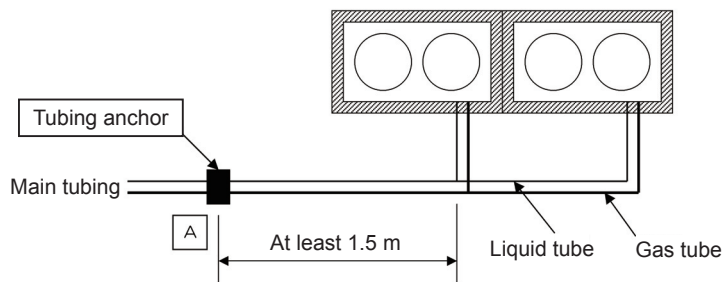

Fig. 22
(2) When Using Interlocking Frames
- When determining the anchor position, refer to the dimensions for A in Fig. 22.